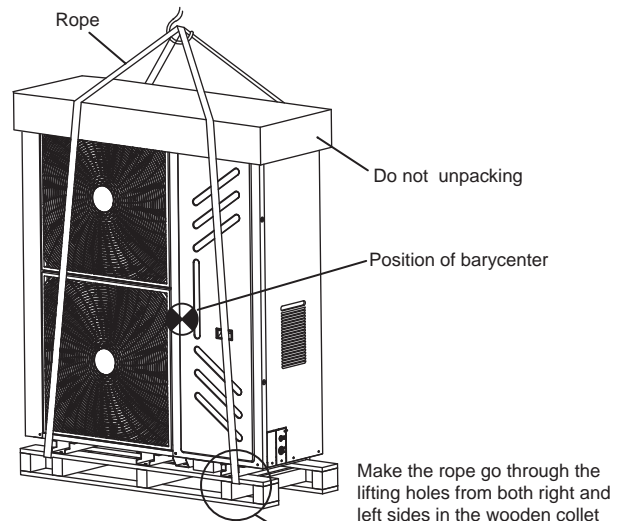

Fig.4-5
- 2) Keep the unit vertical when moving and handling. If the unit barycenter is not at the center of the unit, do not lean it more than 30°. Refer to Fig.4-5. Be careful during moving and lifting.